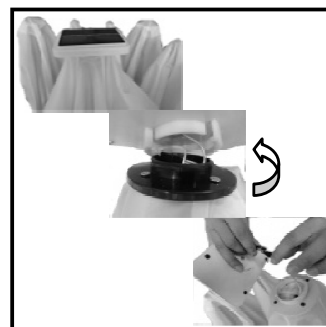

Fig. 14
7. Remove the solar panel by turn it counterclockwise and disconnect the plug from the socket. Store the solar panel in the box provided. (*see Fig. 14*)